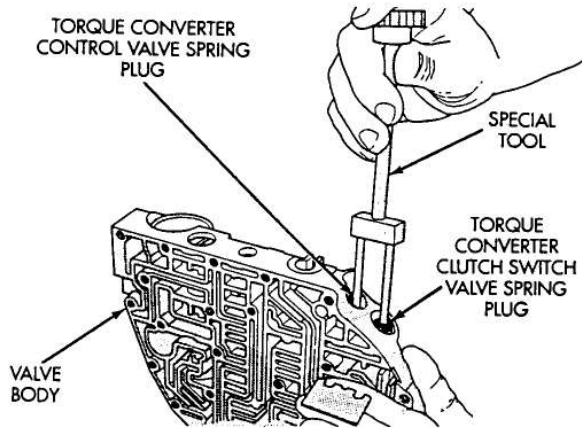

Fig. 14 Remove or Install Dual Retainer Plate
- (8) Remove dual retainer plate from valve body. Use special tool 6301 to remove plate (Fig. 14).